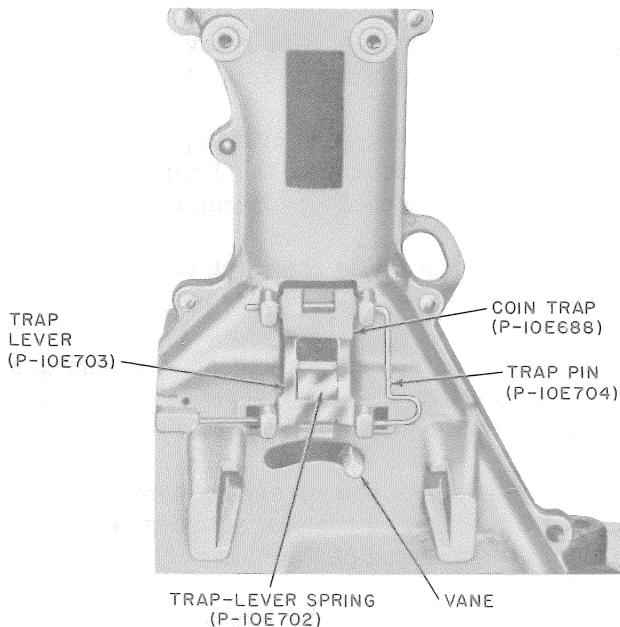

Fig. 43—Trap-Lever Spring and Trap-Lever Assembly
- (1) Remove coin relay from hopper (6.84).
- (2) Move vane to right.
- (3) Remove trap pin (Fig. 43) by sliding vertical portion over boss on front of hopper.
- (4) Turn coin trap sideways and remove through opening.